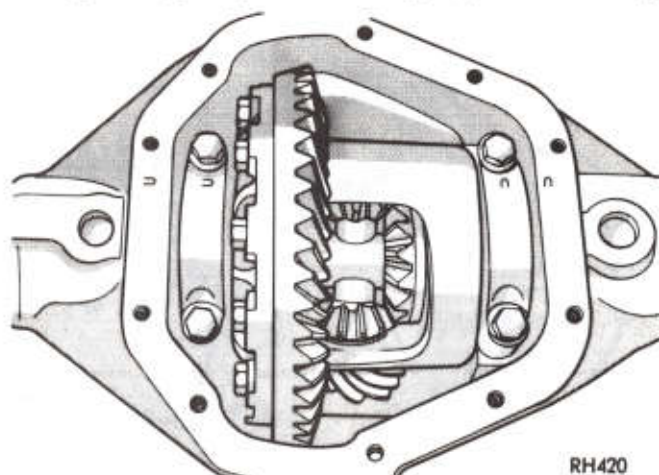
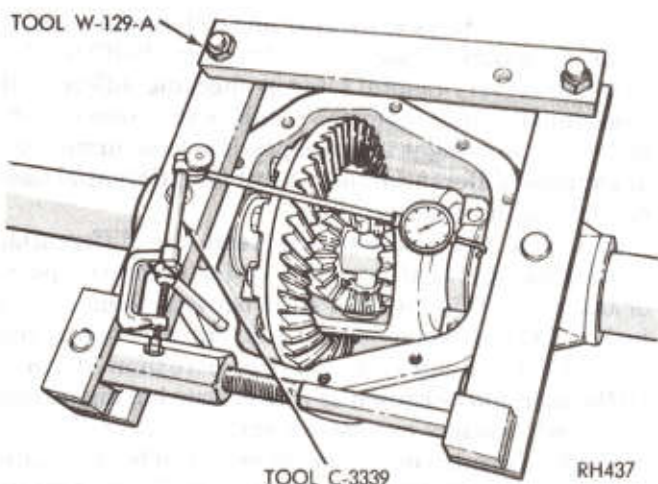

Fig. 20—Bearing Cap Identification
Fig. 21—Spreading Axle Housing
(6) Check the clearance between the differential bearing cap and bearing cup by trying to insert a piece of .003 inch (.076mm) feeler stock between them. A .003 inch (.076mm) feeler should not enter between the bearing cap and cup. A clearance of more than .003 inch (.076mm) could be caused by bearing cup having turned in carrier, causing excessive wear.
(7) Note identifying letters stamped on bearing caps and face of carrier housing seal surface (Fig. 20). Letters stamped on left side are in horizontal position while right side are in vertical position. Always match identifying letters for proper reassembly.
(8) Loosen and remove the differential bearing caps and locate spreader Tool W-129-A with tool dowel pins seated in locating holes of axle housing. Turn tool screw finger tight at this time.
(9) Install pilot stud on left side of axle housing. Attach dial indicator and load indicator stem slightly against opposite side of axle housing (Fig. 21).
(10) Tighten spreader tool nut sufficiently to obtain .015 inch (.381mm) movement of dial indicator to permit removal of differential case and ring gear assembly.